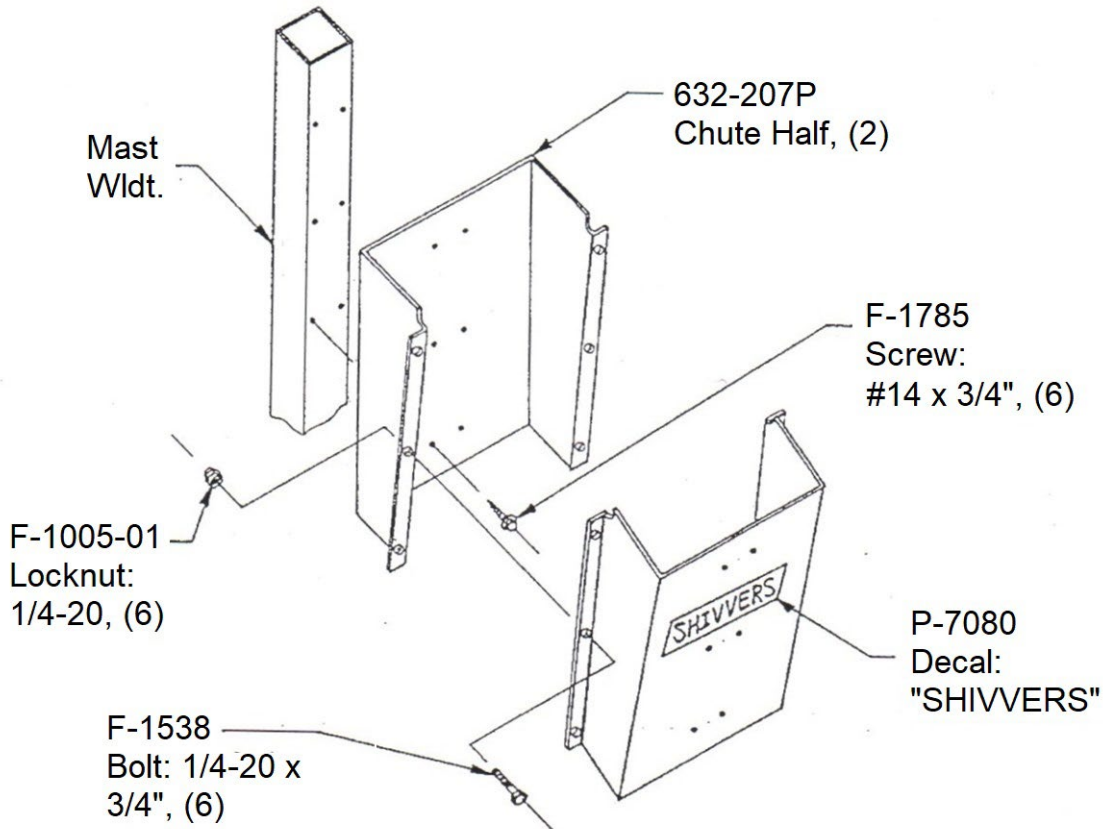

Fig 12.1
**12a. Install the Grain Deflecting Chute, (Consisting of two 632-207Ps), to mast weldment as shown in Fig 12.1.**